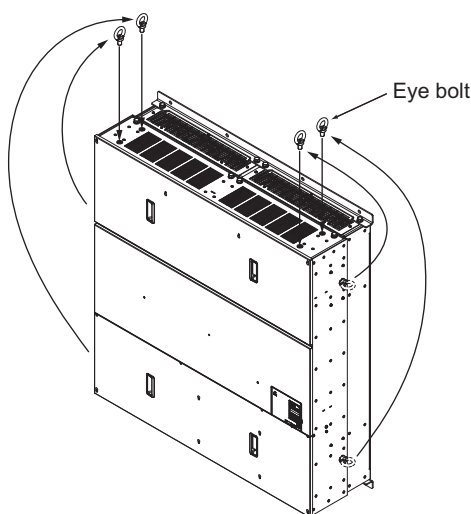

Figure 2.5 Attaching Eye Bolts on Top Panel
1. Remove the four eye bolts from the drive side panels, and fix them securely on the top panel (See Figure 2.5).